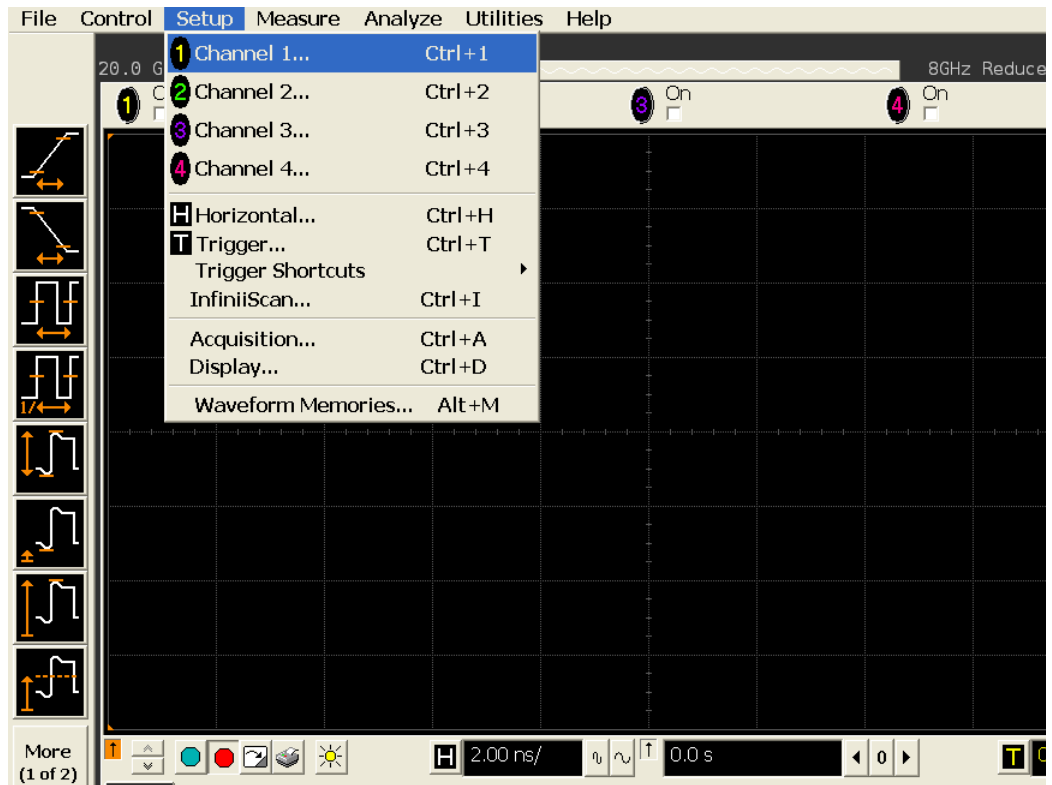

Figure 47 Channel Setup Window.
- 1 On the Infiniium oscilloscope in the Setup menu, select the channel connected to the probe, as shown in Figure 47.